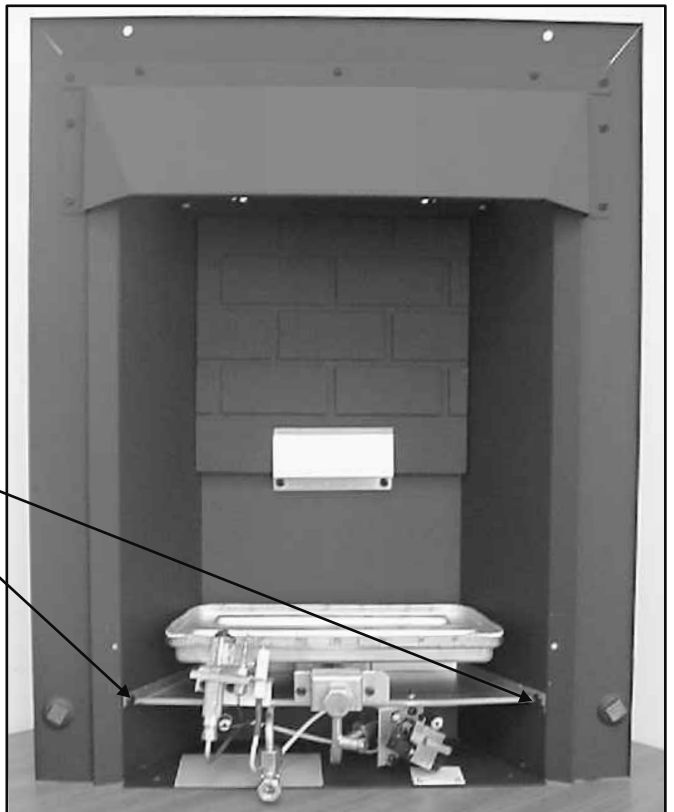

Fig 12.
6.2.3 Remove the burner tray by removing the two screws. Refer to Fig 12.